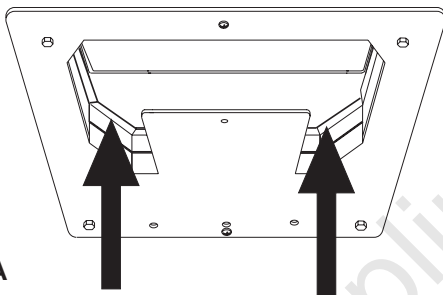

FIG. 14A
3. Place divider plate up to bottom of air conditioner/heat pump base pan firmly. The foam tape on the divider plate must seal to bottom of base pan. See FIG. 14A.